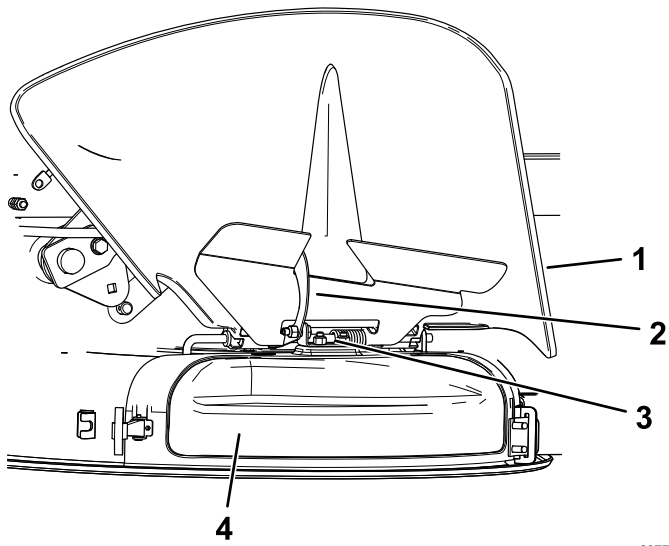

Figure 16
- 4. Release the hook-shaped latch on top of the discharge cover from the pivot rod (Figure 16).
- 5. On the top of the discharge cover, engage the hook-shaped latch around the pivot rod of the deflector assembly (Figure 16).